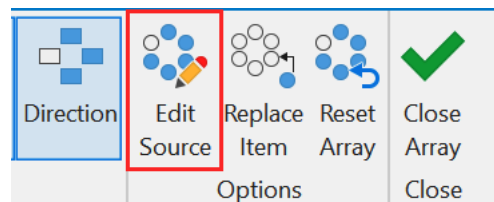

Figure 6.22: The Edit Source icon on the Options panel
1. Locate the **Edit Source** icon on the **Options** panel on the contextual **Array** tab on the ribbon, as shown in *Figure 6.22*. Click on the **Edit Source** icon. You will return to the **Home** tab on the ribbon.